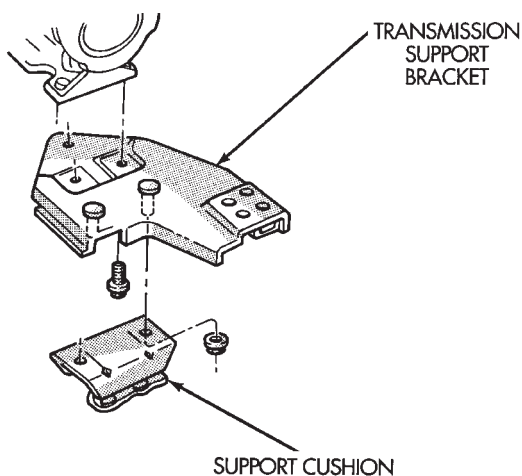

Fig. 10 Rear Mount—XJ Vehicles (Manual Transmission)
(1) Disconnect negative cable from battery.
(2) Raise the vehicle and support the transmission.
(3) Remove the nuts holding the support cushion to the crossmember (Figs. 10 and 11). Remove the crossmember.
(4) MANUAL TRANSMISSION:
(b) If necessary, remove the bolts holding the transmission support bracket to the transmission (Fig. 10). Remove the bracket.